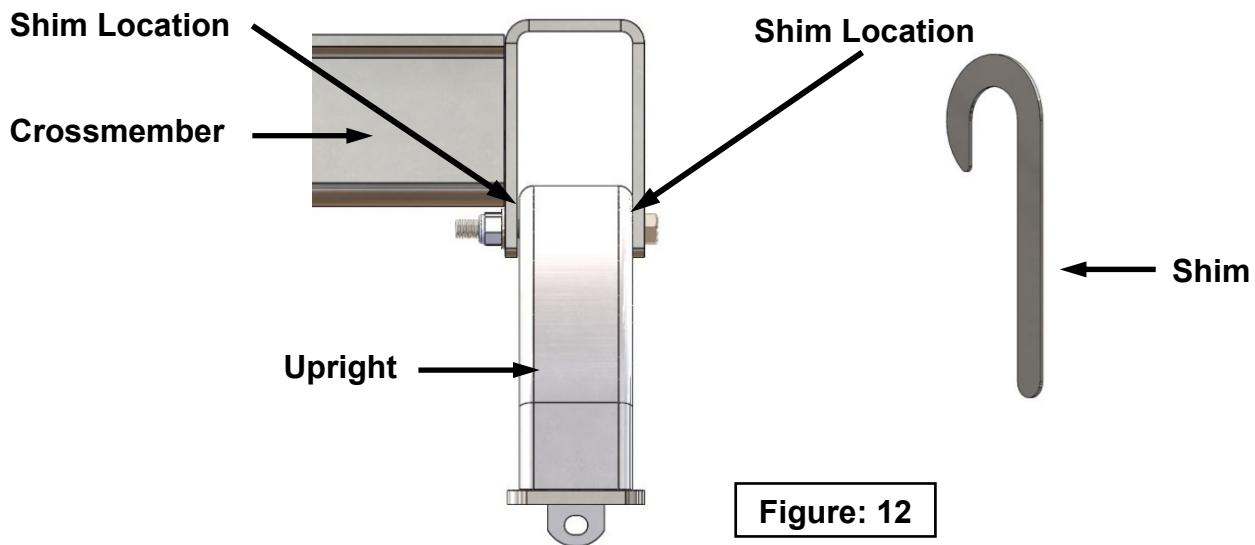

Figure: 12
20. Check each rail hitch pin for freedom of movement in the bed rail connection. Adjust uprights, if necessary, by placing shim 32043 between the upright and the cross member to obtain free pin movement. See Fig. 12. Shims 32043 sold separately or provided with uprights.